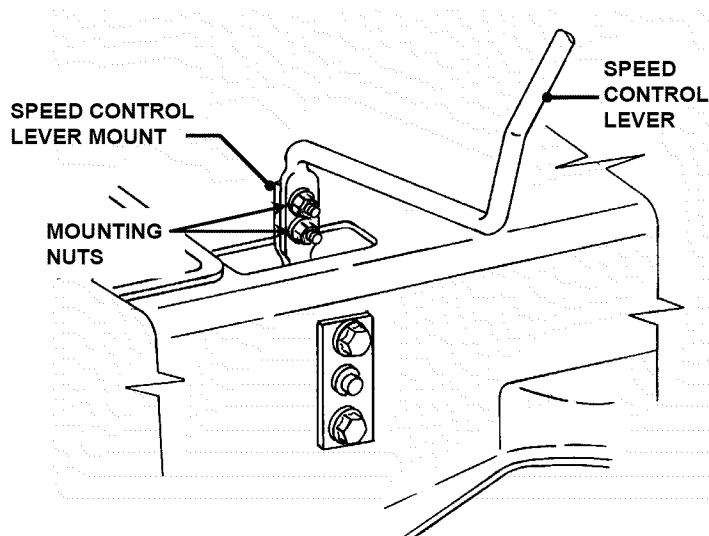

FIGURE 4.20
3. Locate speed control lever mount behind right rear tire. See Figure 4.20.